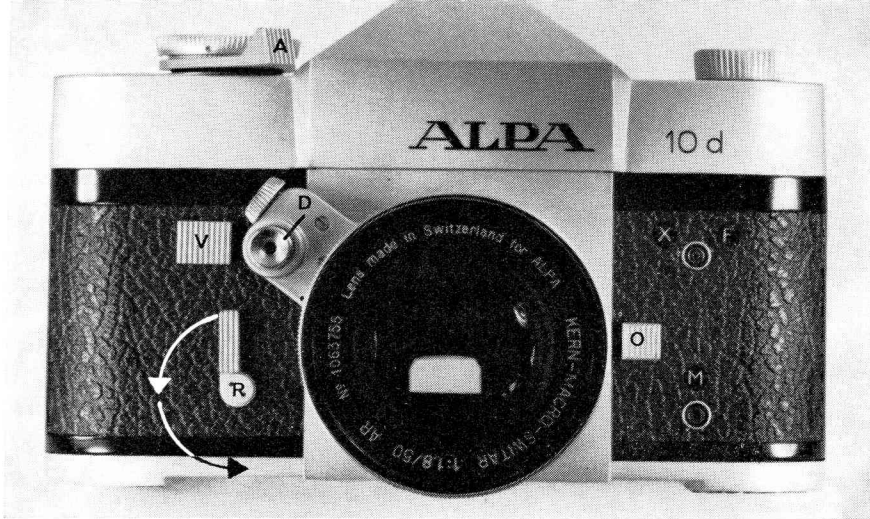

Fig. 2
Located on the front of the ALPA 10d (D Fig. 2) the hair-trigger release instantaneously operates the quiet, lightning-fast reflex-mirror and smooth-gliding, vibration-free shutter. Press your thumb against the camera back in the opposite direction, so as to hold your ALPA as steadily as possible. The conical thread inside the release button accepts a cable release. All lenses with automatic diaphragm have integrated release buttons, which in turn depress the release button on the camera. The flip-up reflex-mirror immediately returns to its normal position, after the shutter is closed, even if you keep the release button depressed. Any vibration you may feel is caused by the flipping down of the mirror, which has no longer any influence on the sharpness of the picture.
The shutter release lock (V Fig. 2)
The built-in selftimer (R Fig. 2) can be adjusted from 1-20 seconds. Turning the lever to its extreme position corresponds to a delay of approximately 20 seconds. If moved 90° only, the delay will be about 6 seconds.
The extremely gentle release by the selftimer permits vibration free exposures, especially useful at slow shutter speeds. If for any reason a picture is not taken after the selftimer has been set, simply lock the release button (V Fig. 2), then keep the release button depressed until the lever (R) returns to its original position.
The upper X and F contact (Fig. 2) is for synchronization with electronic flash at shutter speeds up to 1/60
The lower M contact (Fig. 2) is for synchronization with class FP bulbs for focal plane shutters. They have a long peak that gives uniform illumination over the entire image, at most shutter speeds.
Press the lens lock button (O Fig. 2) and turn the lens anti-clockwise. To insert the new lens line up the two red